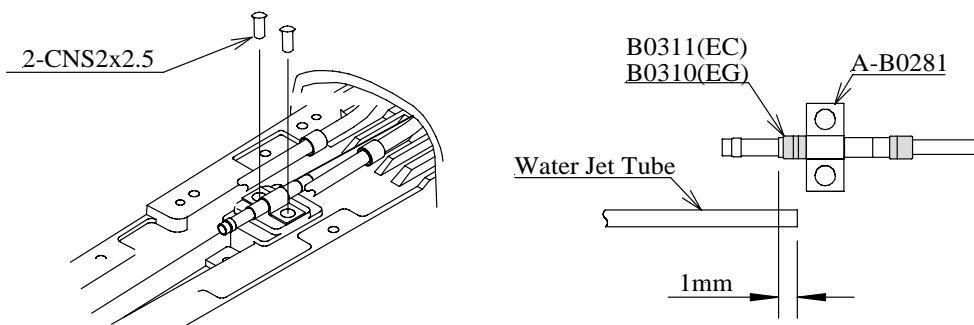

Fig.4-3-4
- 6) Cut the Water Jet Tube at the length as shown in Fig.4-3-4.